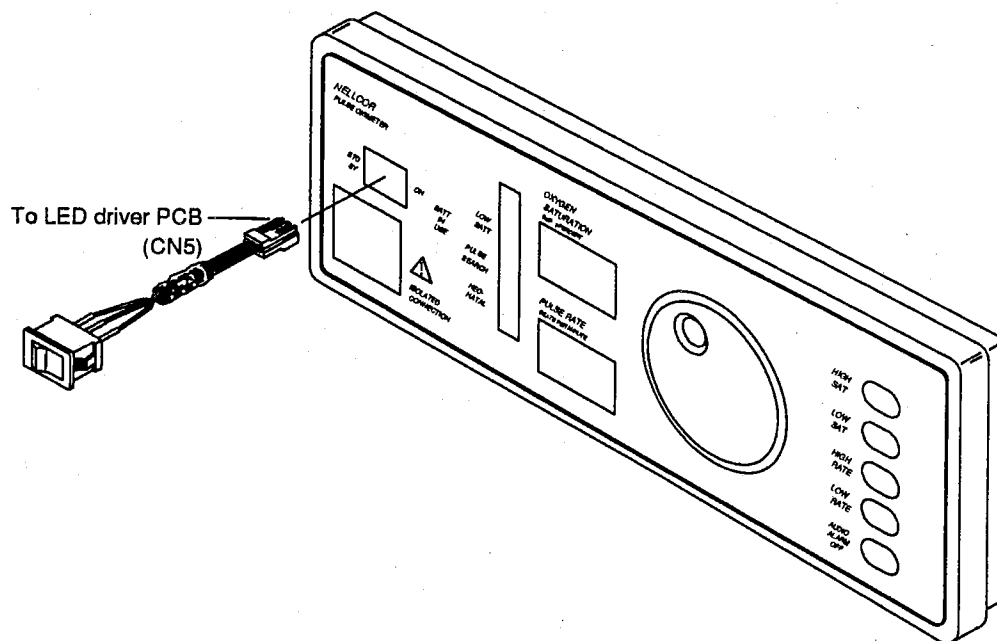

Figure 1. Switch and Cable Assembly
1. To remove the ON/STDBY switch and cable assembly (Figure 1):